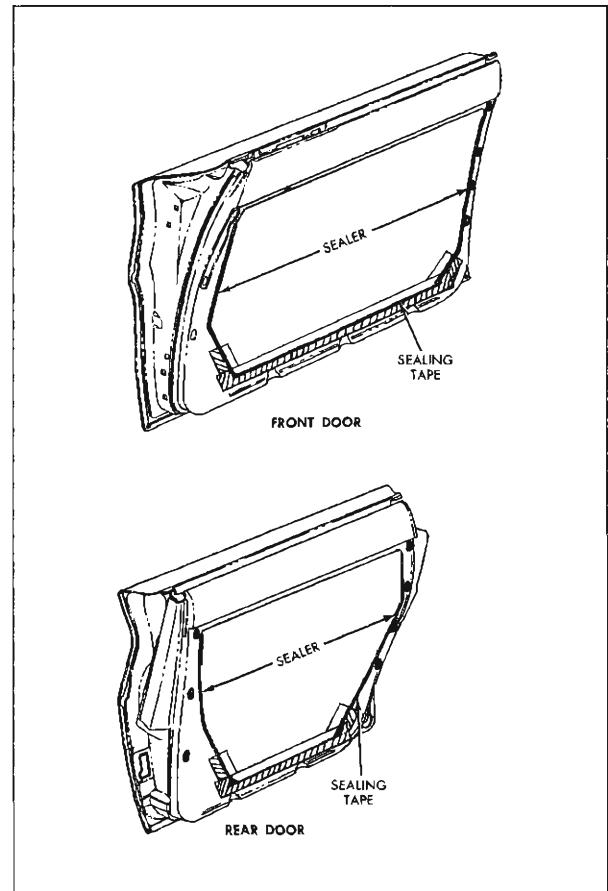

Fig. 12-4 Water Deflector Installation
2. Remove strips of waterproof body tape securing lower corners of water deflector (Fig. 12-4).
If old sealer does not effect a satisfactory seal, apply a bead of body caulking compound (approximately $\frac{3}{16}$ " diameter) to inner panel at unsealed areas (Fig. 12-4).
4. Seal lower corners of deflector with 2" or $2\frac{1}{2}$ " waterproof body sealing tape (Fig. 12-4).